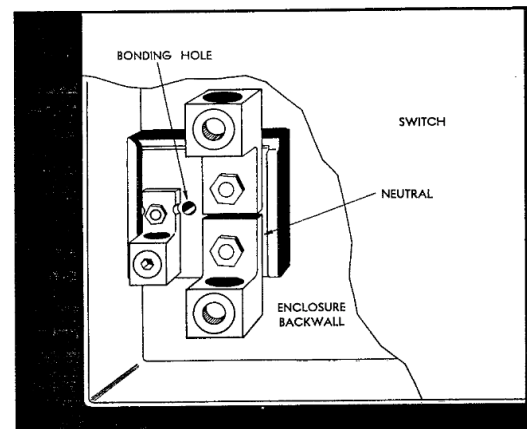

Fig. 2. Typical installation of TNI65 Neutral kit
4. Install the #2-600MCM line and load logs using nuts and lock washers provided (see Fig. 2).
5. If bonding is required, insert the long bonding screw through the hole in the neutral (Fig. 2) and thread it into tapped hole in switch back wall.